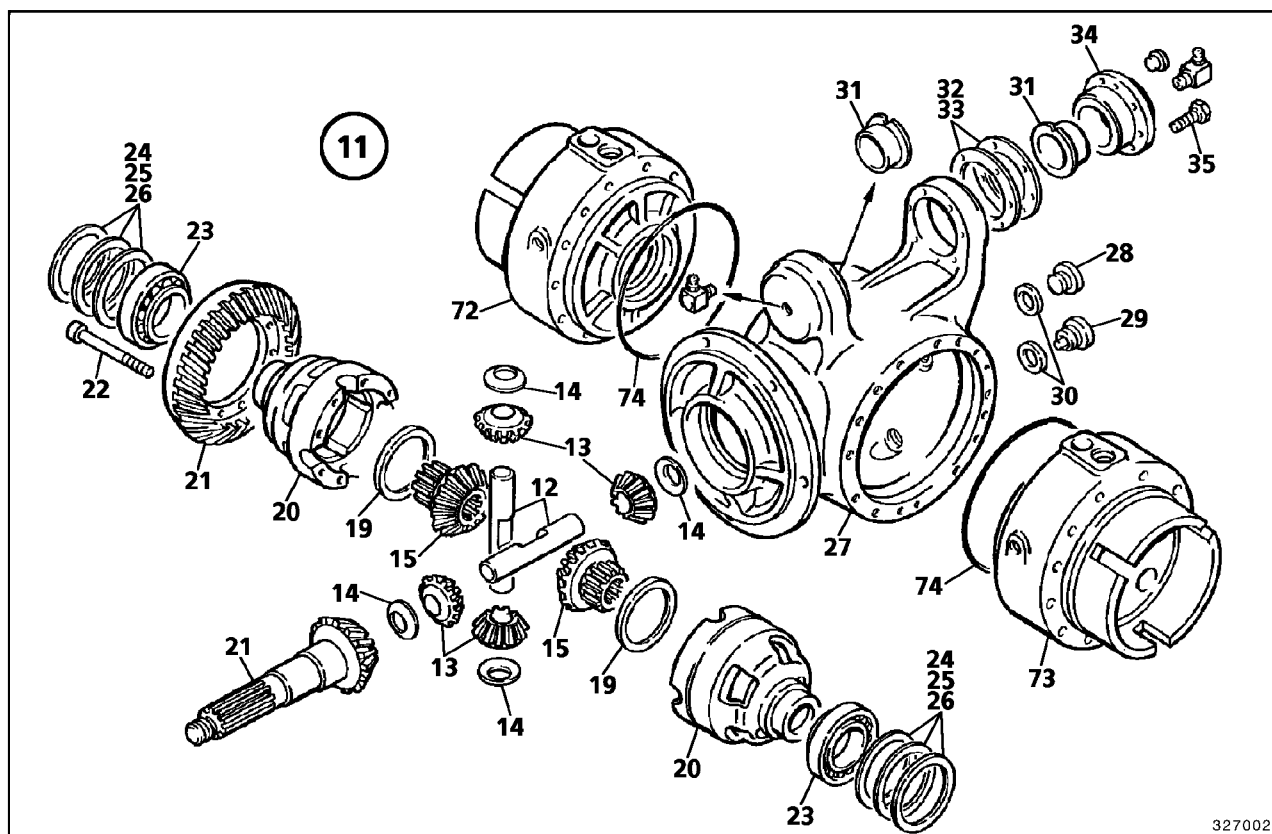

Fig. 3
- Remove O-ring (107).
- Extract drive shaft (108).
- Lift off complete brake assembly (72, Fig. 3) and remove O-ring (74).
- Extract drive shaft (108) from lower axle tube.